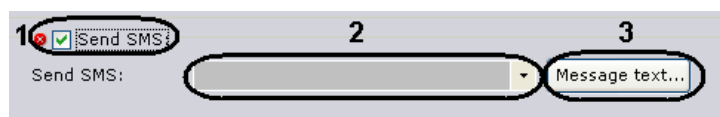

Fig. 6.5—35 Configuring SMS notification
1. Select the **Send SMS** check box (Fig. 6.5—35, 1).
2. From the **Send SMS** list (see Fig. 6.5—35, 2), select the **SMS** object which will be used for SMS notification when a detector is triggered.